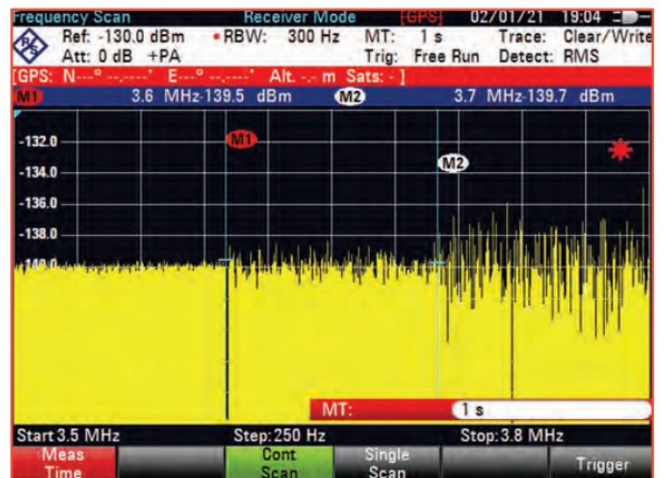

FIGURE 2: FSH8 spectrum analyser in receiver mode from 3.5MHz to 3.8MHz showing the effect of different measuring times.
Now let's look at how long we need to spend on each frequency when measuring noise. The FSH8 has a spectrum analyser mode and a receiver mode. The spectrum analyser mode sweeps from a start frequency to a stop frequency but the receiver mode steps across a number of different frequencies. For example in **Figure 2** the FSH8 has been set to step from 3.5MHz to 3.8MHz in steps of 250Hz, so it measures at total of 1201 different frequencies. The resolution bandwidth is 300Hz and the measuring time on each frequency can be set manually. In Figure 2, the measuring time (MT) is 1000ms from 3.5 – 3.6MHz, 100ms from 3.6 – 3.7MHz and 10ms from 3.7 – 3.8MHz. It can be seen that a measuring time of 1000ms gives a relatively small random variation of up to ± 0.5 dB whereas the shorter measurement times of 100ms and 10ms give much larger random variations. This confirms the findings of the German national amateur radio society (DARC) ENAMS system that, for 300Hz receiver bandwidth, a measurement time of 1000ms should be used on each frequency. Using a conventional receiver, this would require a measurement time of about three seconds per kHz (that's 3000 seconds, or 50 minutes, per MHz) but the DARC ENAMS system uses advanced DSP techniques to speed this up greatly.
From Figure 2, if we take the spectrum analyser noise floor as -140dBm and if we assume that 300Hz is the noise bandwidth (which is only an approximation) then we can calculate the noise power in 1Hz bandwidth by subtracting $10 \cdot \log(300) = 24.8\text{dB}$. That gives -164.8dBm in 1Hz bandwidth, which can also be written as -164.8dBm/Hz . For measurements of noise or noise-like signals, it is common to express the power density in dBm/Hz (although the actual measurement is typically made in a wider bandwidth than 1Hz). It is also possible to deduce the noise figure of the receiver in this way.